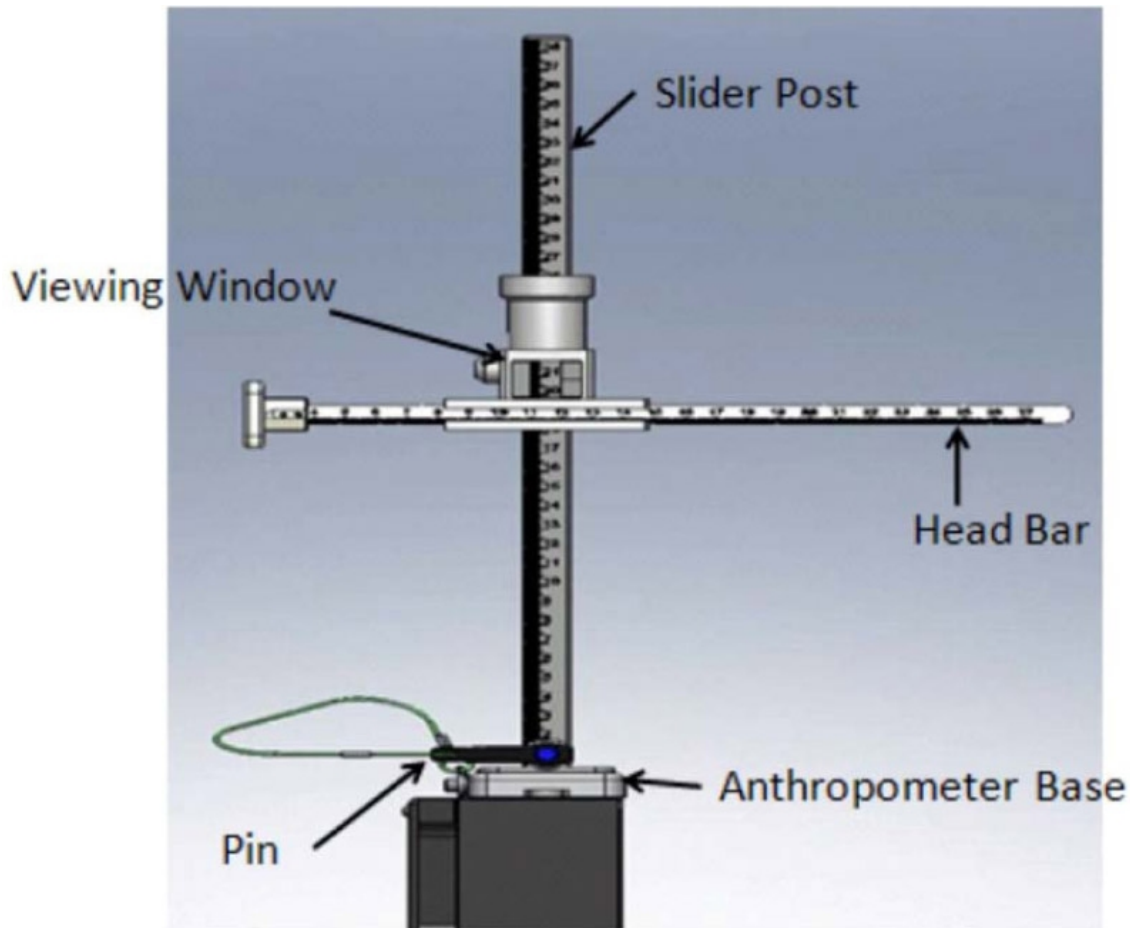

Figure 9. Head Bar Connected to Slider Post
- 5.5 Retrieve Head Bar from tmpy stow and insert into slot on Slider Post, ensuring that numbers on the Head Bar and slot on the Slider Post are facing the D2Xs Camera. Refer to Figure 9.